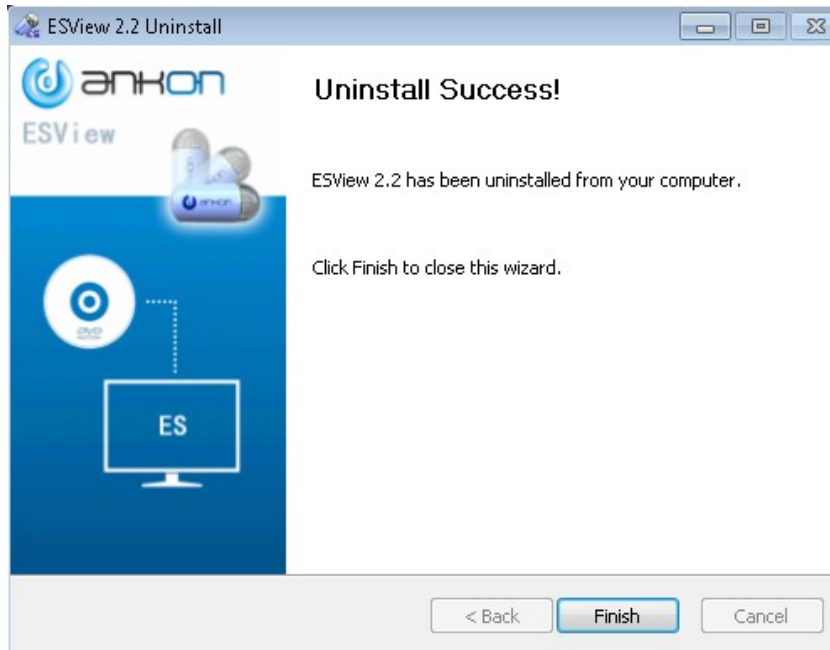

Figure 3-7: Successful Uninstallation Dialog Box
2. After ESView software is successfully uninstalled, the “Uninstall Success!” dialog box (Figure 3-7) appears. Click “Finish” to complete uninstallation.